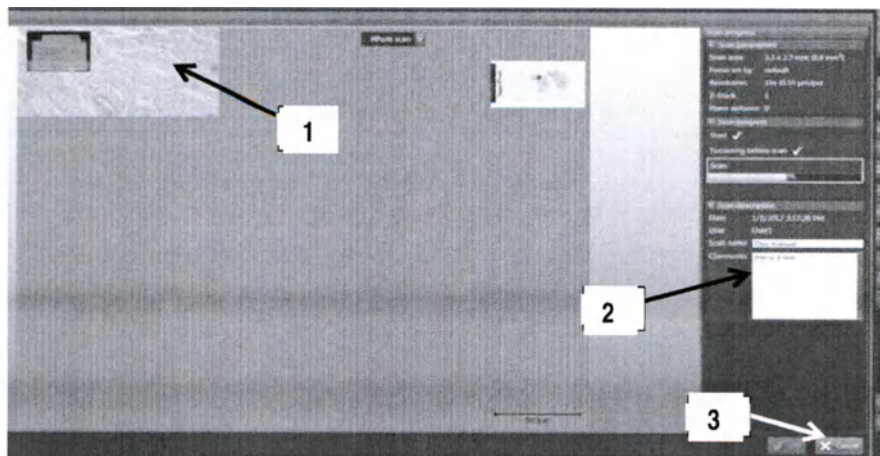

Figure 43
- Zoom in at any time to verify the quality of the image (Figure 43 1);
- Or the scan may be cancelled (3).